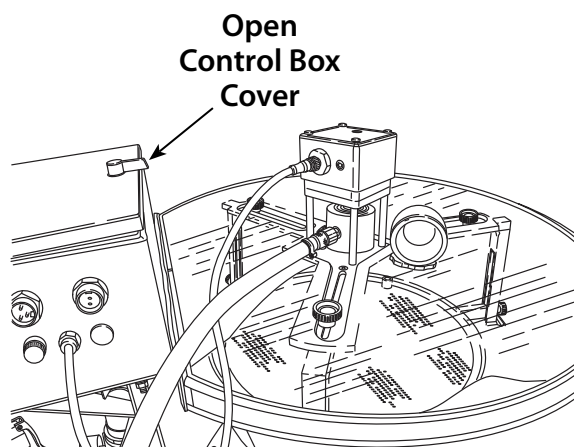

Figure 20
1. Once a DPF has been loaded into the DPF Cleaner according to the instructions in the Setup section of this manual, open the cover of the Control box. (Figure 20)